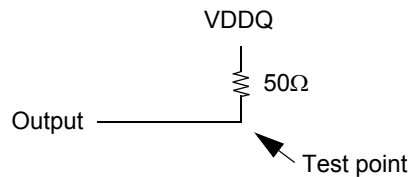

Figure 3. Pull-down slew rate test load
b. Pull-down slew rate is measured under the test conditions shown in Figure 3
Figures 3 and 4 show the driver characteristics graphically, and tables 8 and 9 show the same data in tabular format suitable for input into simulation tools. The driver characteristics evaluation conditions are:
1. The full variation in driver current from minimum to maximum process, temperature and voltage will lie within the outer bounding lines of the V-I curve of Figure 3 and 4.
2. It is recommended that the "typical" IBIS V-I curve lie within the inner bounding lines of the V-I curves of Figure 3 and 4.